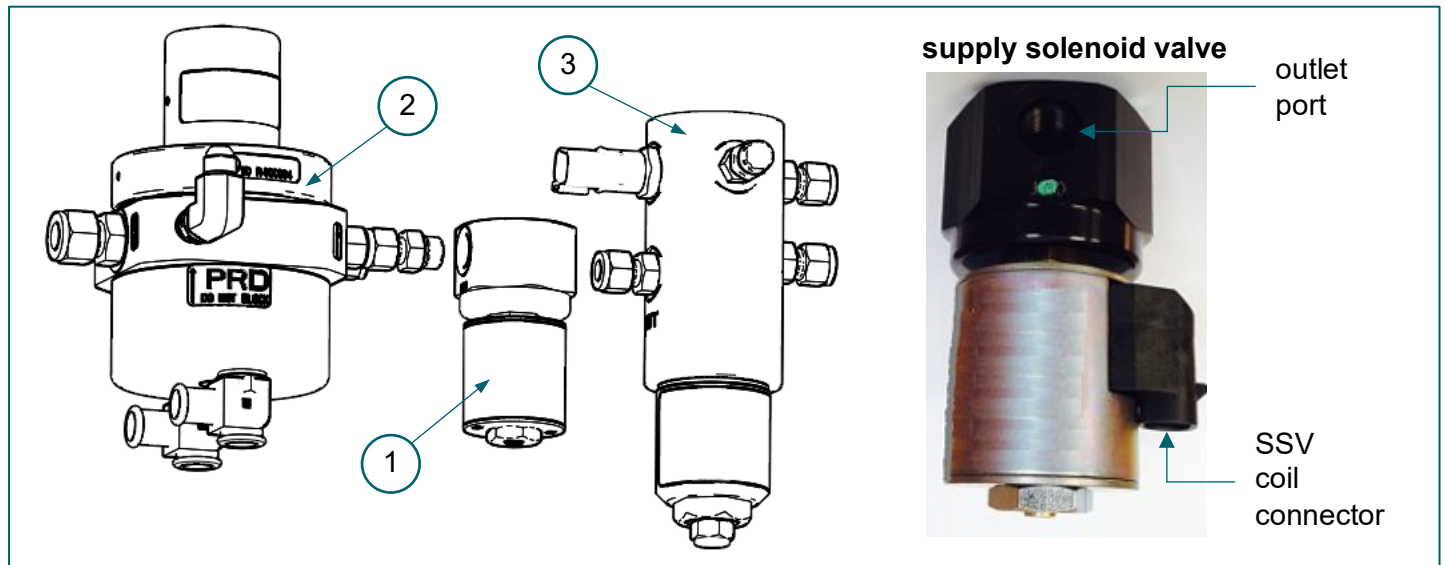

FIGURE 2–14. Standalone supply solenoid valve (SSV) typical location and features (BTC system shown)
Supply solenoid valves on some systems are mounted between the high-pressure (HP) filter and the pressure regulator. **FIGURE 2–14**